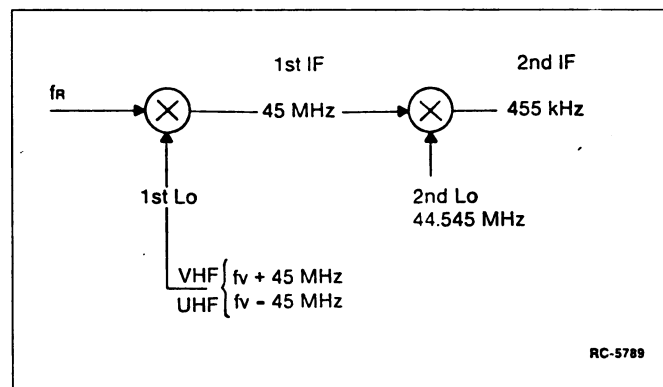
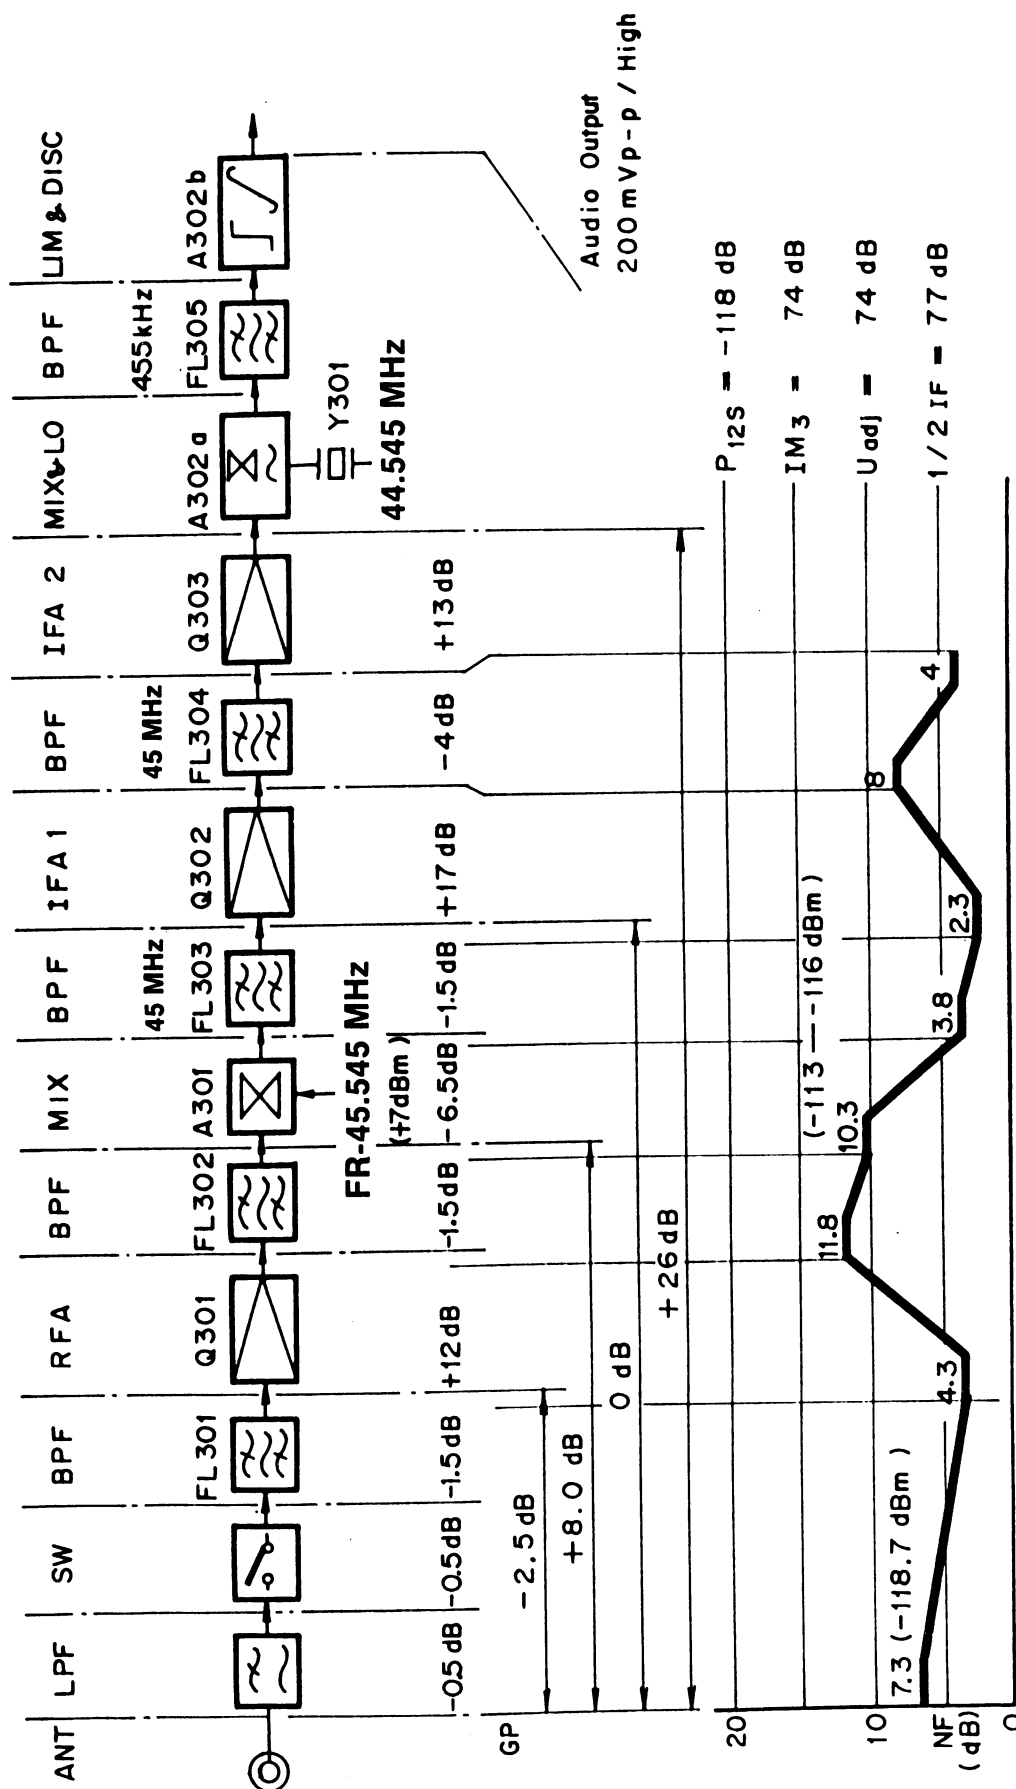

FIGURE 7 - FREQUENCY RELATIONSHIP DIAGRAM
FIGURE 8 - TYPICAL LEVEL DIAGRAM
- a. **Level Diagram:** A Frequency Relationship Diagram is shown in Figure 7 and a Typical Level Diagram is shown in Figure 8.